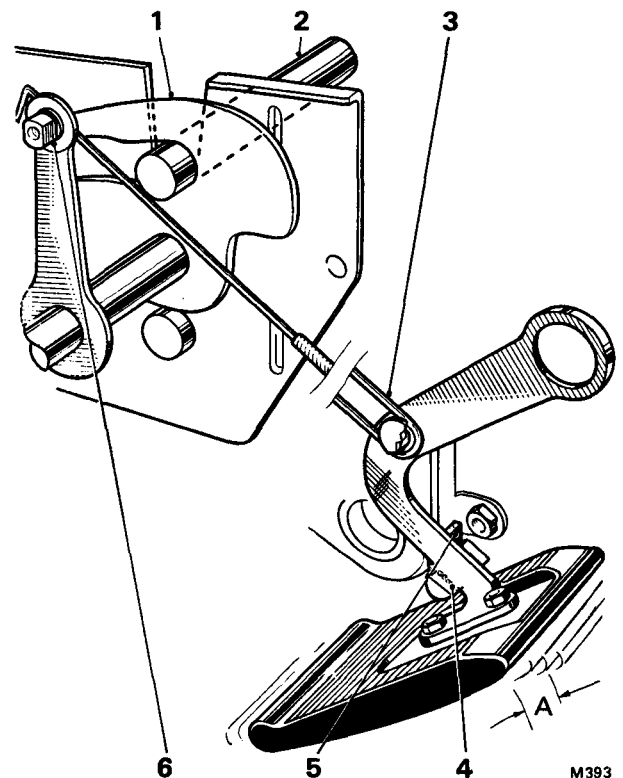

FIG. S51 SETTING THE BONNET CATCH OPERATING MECHANISM
Bonnet catch operating cable—To remove (*see Fig. S51*)
2. Remove the small socket-headed grub screw from the cable nipple (*see Fig. S51*) on the countershaft.
Bonnet catch operating cable—To fit and set (see Fig. S51)
Refer to Figure S51, which illustrates a right-hand drive car; on left-hand drive cars position the setting bar in the guide plate and cam at the opposite end of the countershaft.
6. Fit the cable nipple and washer to the countershaft then thread the free end of the cable through the nipple. Tighten the nipple so that, with the cam fully closed onto the setting bar, there is approximately $\frac{1}{8}$ in. (3,175 mm.) of free movement between the lever resting on its stop and starting to open the cam (see Fig. S51); bend down the free end of the cable protruding through the nipple.